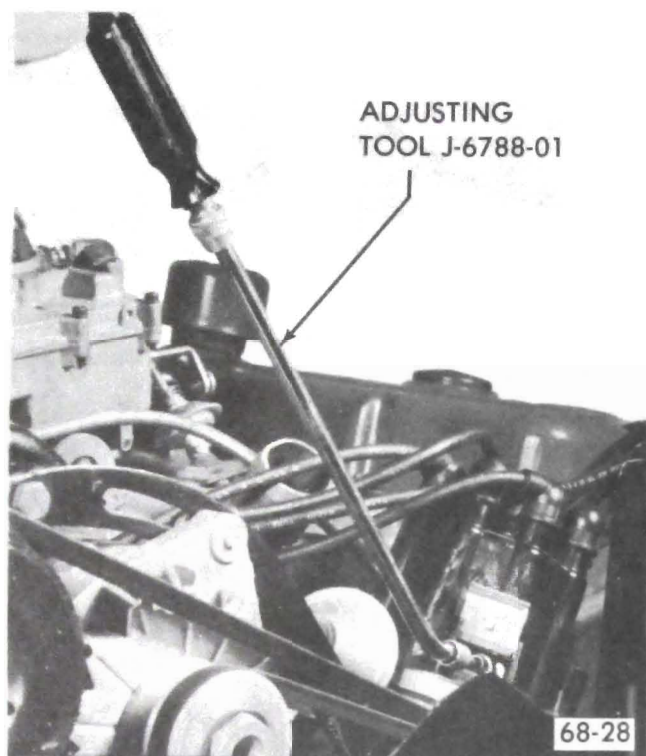

Figure 68-26 - Adjusting Contact Point Dwell Angle
3. Start engine. Lift adjustment window and insert 1/8" Allen wrench in adjusting screw. See Figure 68-26. Set dwell angle at 30 degrees.